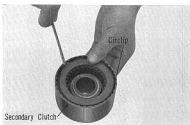

Fig. 7B-179
1. Remove the internal circlip with a screwdriver. (Fig. 7B-179)